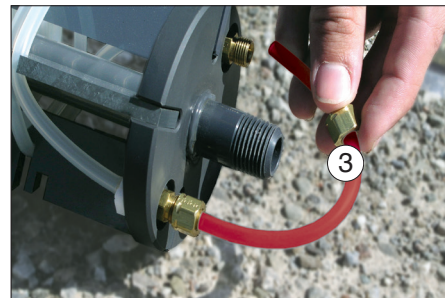

Figure 2
3. Attach 1/4" (6.4 mm) LDPE tubing loop with supplied 1/4" (6.4 mm) brass compression fittings to be the "bottom end" of the unit. (3) (See Figure 2).